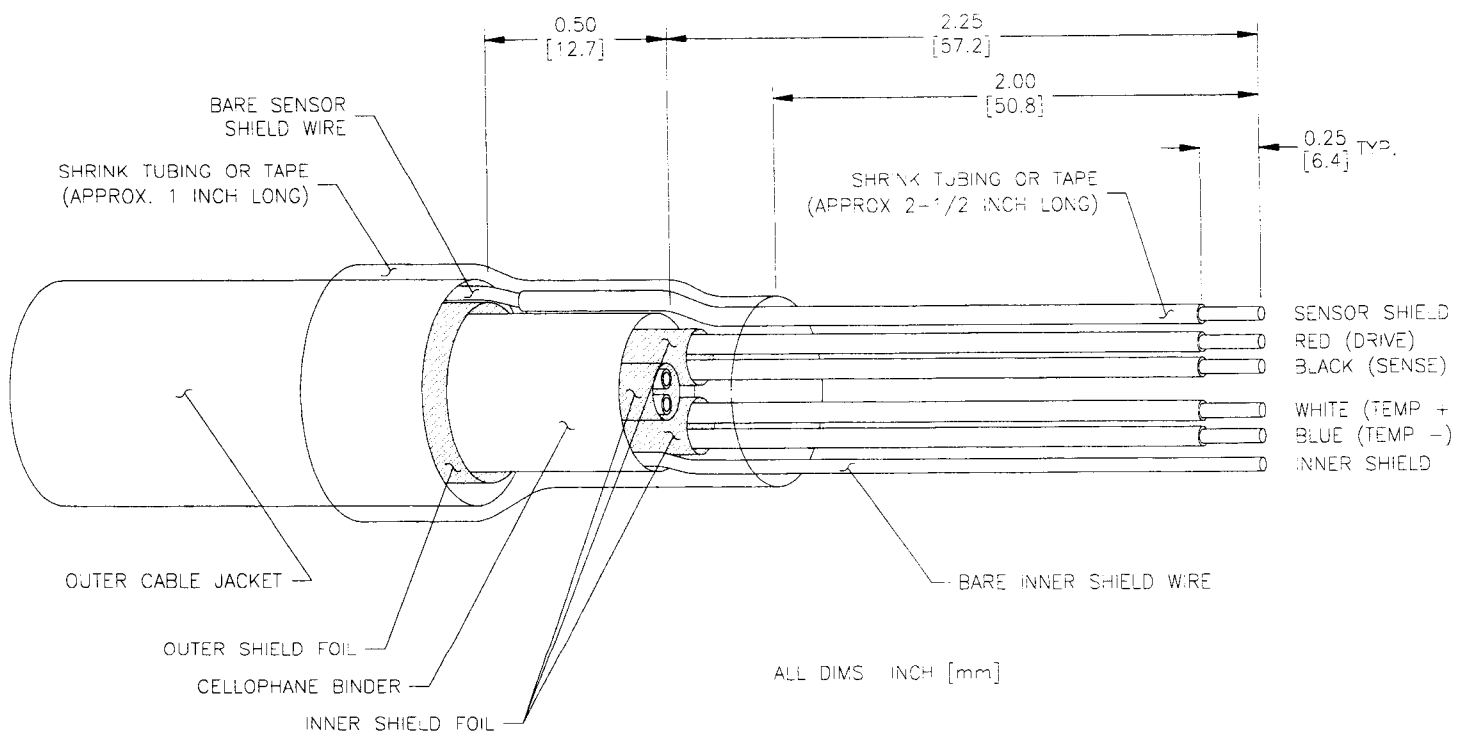

Figure 2-4 Interconnect Cable Termination Details
To correctly terminate the ends of the sensor or interconnect cable, refer to Figure 2-4 and follow this procedure:
5. Carefully position a 2-1/2 inch long piece of shrink tubing or tape on the bare sensor shield wire 1/4-inch from the end as shown in Figure 2-4 to insulate and distinguish it from the inner shield wire. Doing this exposes 1/4-inch of bare shield wire beyond the tubing or tape for connection purposes.
6. Carefully position a 1-inch long piece of shrink tubing or tape on the cable as shown in Figure 2-4 to secure all wires.